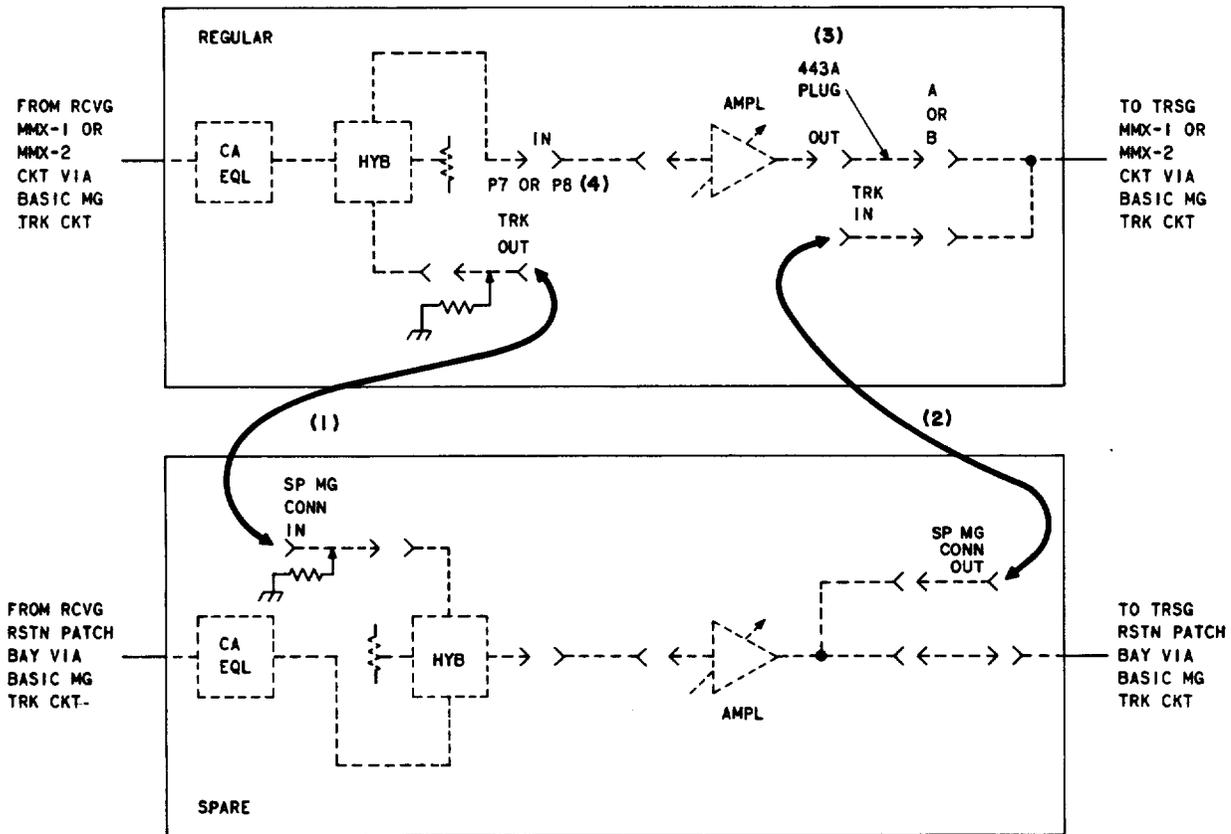

Fig. 3—Removing Regular Equipment From Service—Patching Procedure
- 8 Using a P2EB cord, connect the SP MG CONN IN jack of the spare connector to the TRK OUT jack of the regular connector [patch (1), Fig. 3].
- 9 Using a P2EB cord, connect the SP MG CONN OUT jack of the spare connector to the TRK IN jack of the regular connector [patch (2), Fig. 3].
- (a) Remove the 443A plug from the OUT and A (or B) jacks [patch (3), Fig. 3].
- (b) Remove the P7 or P8 plug (IN) from PAD [patch (4), Fig. 3]; terminate it into 75 ohms.